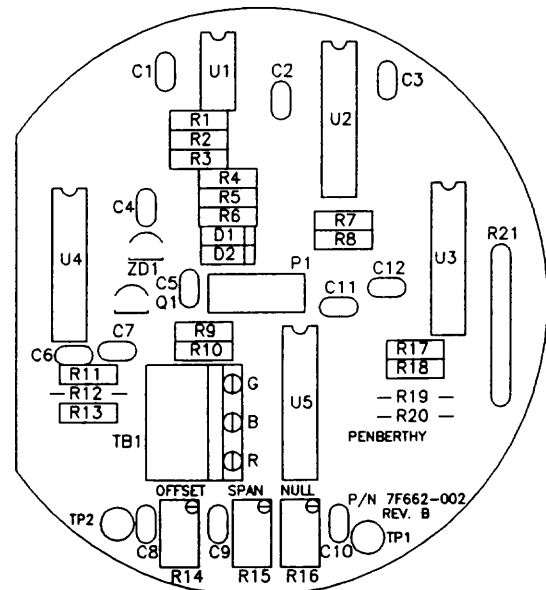

Figure 2
- 1.) Connect the red, green and black sensor wires to TB1 on the lower circuit board. (see Figure 2)
- 4.) Connect the positive (+) lead of a digital voltmeter to TP1 on the lower circuit board. Connect the negative (-) lead of a digital voltmeter to TP2 on the lower circuit board. (Figure 2)
- 6.) Turn the NULL, SPAN and OFFSET potentiometers (R20, R19, and R18) fully counter-clockwise. (Figure 2)
- 7.) Apply power to the unit. The milliammeter should read 4mA or less. If not, contact the factory. If the milliammeter reads over 20mA then the float or calibration magnet may not be in proximity to the sensor or the sensor wires are not properly connected at TB1. Reposition the float or inspect the wiring. (Figure 2)
- 8.) Turn the NULL potentiometer (R20) clockwise so that the voltmeter reads  $0.00V \pm 0.01V$  (DO NOT OVER ADJUST). (Figure 2)
- 9.) Turn the OFFSET potentiometer (R18) clockwise so that the milliammeter reads  $4mA \pm 0.05mA$ . (Figure 2)
- 11.) Turn the SPAN potentiometer (R19) clockwise so that the milliammeter reads  $20mA \pm 0.05mA$ . (Figure 2)